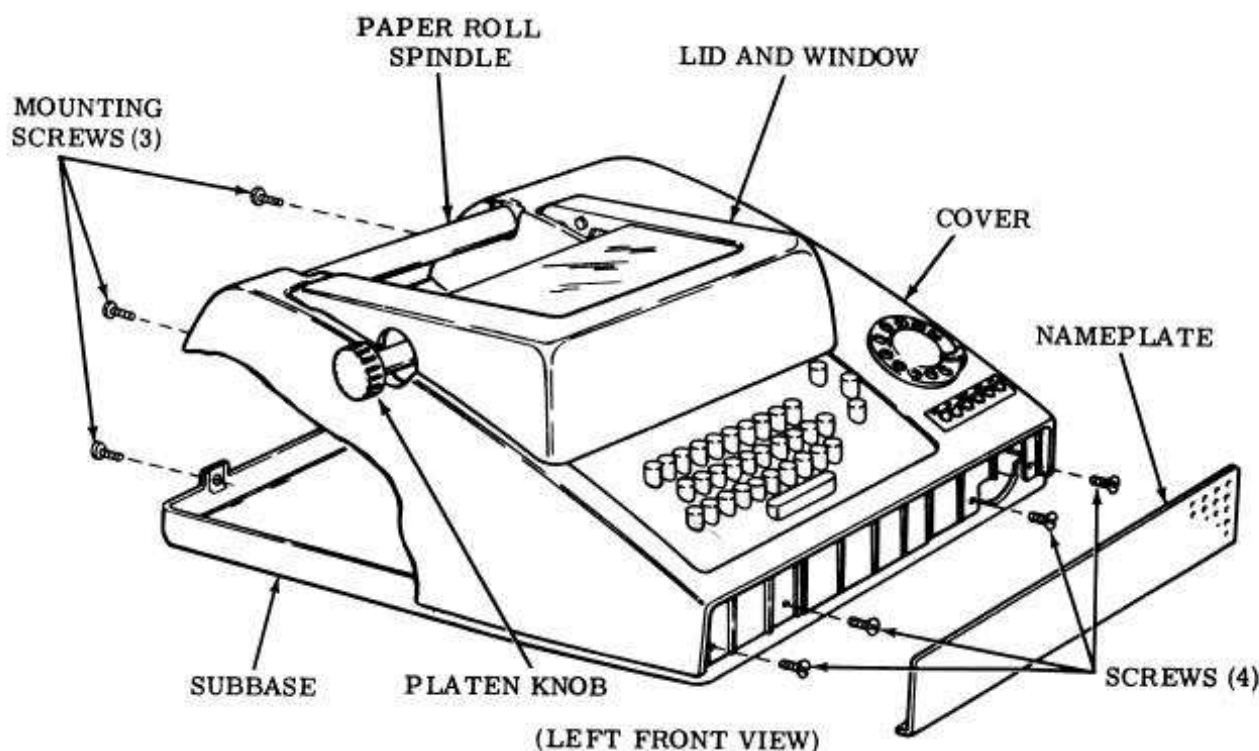

Figure 2 - Cover
paper roll spindle. Mounting slots are provided for a copy holder. A nameplate (Figure 2) is mounted at the front.
1.03 The cover is mounted at its outer edges on a cast subbase (Figure 2) which serves as a foundation for the keyboard, typing unit, and call control unit. Rubber vibration isolators support the typing unit.
4.03 Remove seven TP125002 mounting screws—four in the front and three in the rear of the cover (Figure 2).